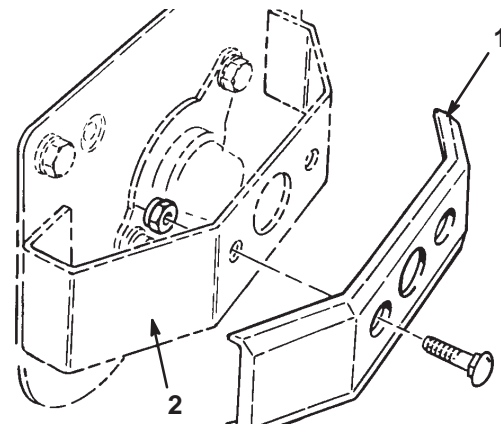

Figure 3
4. Mount one weight to each cutting unit guard (Fig. 3) on the #1, #2 and #3 cuttings. Weights are located at the opposite end of each cutting unit drive housing. Use 1/2 in. carriage bolts provided with weights (Fig. 3).